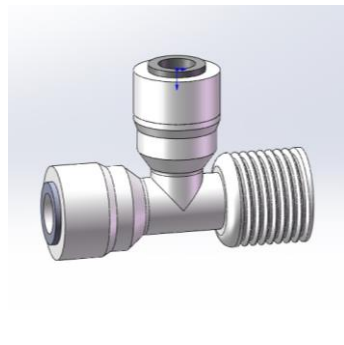

Figure. 5
5. Remove the fitting shown in the kit and wrap the thread seal tape around the threads, as shown in Figure.5